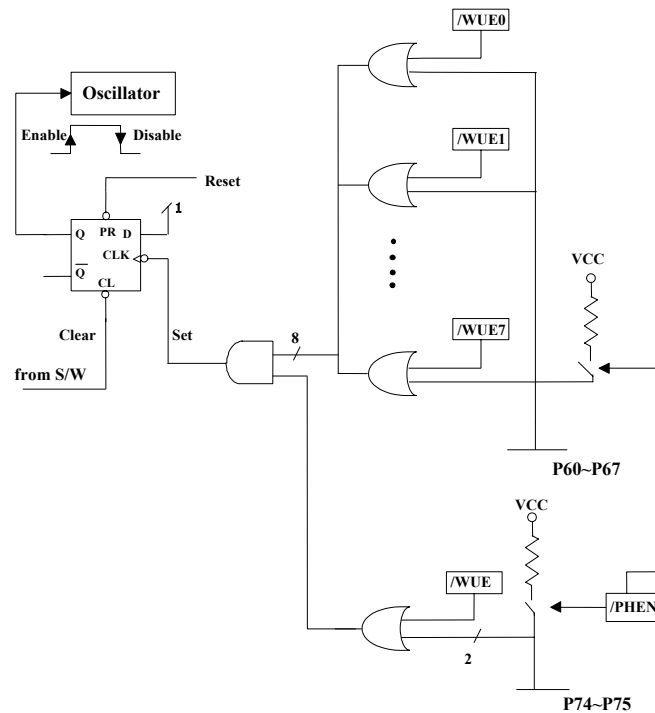

Fig. 5 Sleep Mode and Wake-Up Circuits on I/O Ports Block Diagram
- **Bit 4 (SLPC)** This bit is set by hardware at the low level trigger of wake-up signal and is cleared by software. SLPC is used to control the oscillator operation. The oscillator is disabled (oscillator is stopped, and the controller enters into SLEEP2 mode) on the high-to-low transition and is enabled (controller is awakened from SLEEP2 mode) on low-to-high transition. In order to ensure the stable output of the oscillator, once the oscillator is enabled again, there is a delay for approximately 18ms¹ (oscillator start-up timer, OST) before the next instruction of the program is executed. The OST is always activated by a wake-up event from sleep mode regardless of the Code Option bit ENWDT status is "0" or otherwise. After waking up, the WDT is enabled if the Code Option ENWDT is "1". The block diagram of SLEEP2 mode and wake-up invoked by an input trigger is depicted in Fig. 5. The SLPC bit can be read and written.